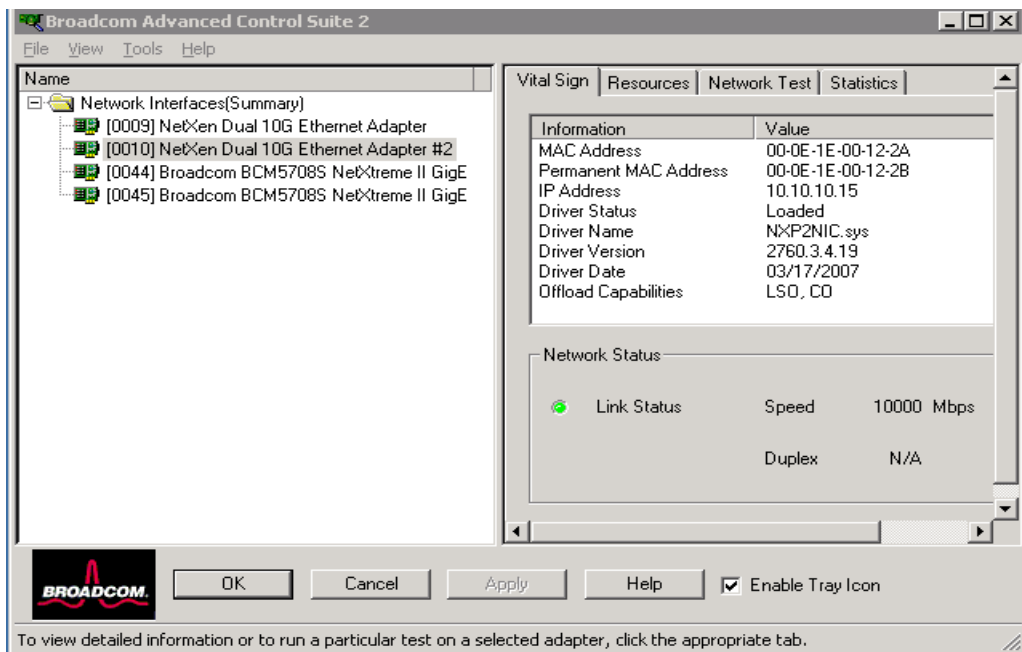

Figure 5-30 Broadcom Advanced Control Suite
2. The Vital Sign tab (Figure 5-30 on page 82) shows layer 2 and layer 3 addressing information, driver version, and capability information. Note that TOE is not supported on the NetXen adapter using the Broadcom driver, but Large Send Offload (LSO) and Checksum Offload (CO) are supported.